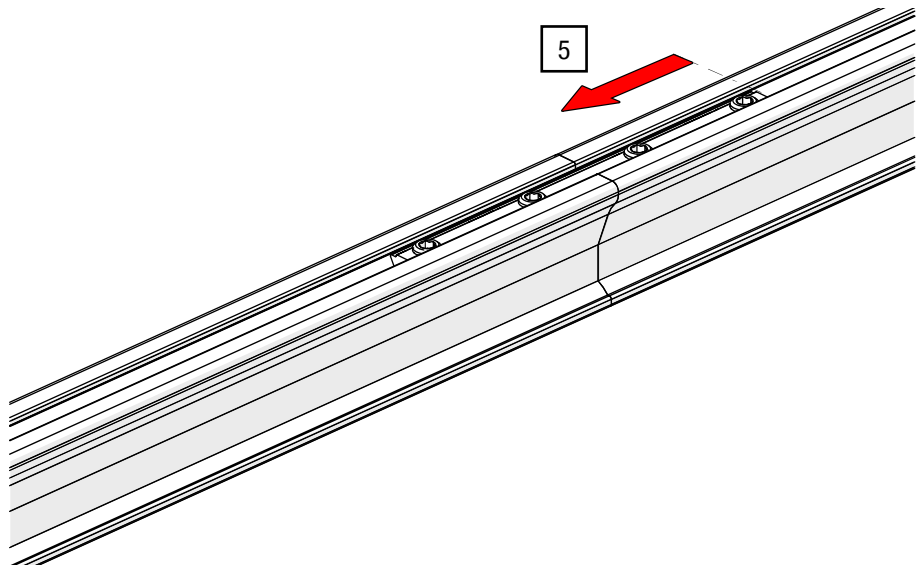

Fig. 29: Track splice – Position on track sections
5. Move the track splice to the centre of the two track sections (see Fig. 29).